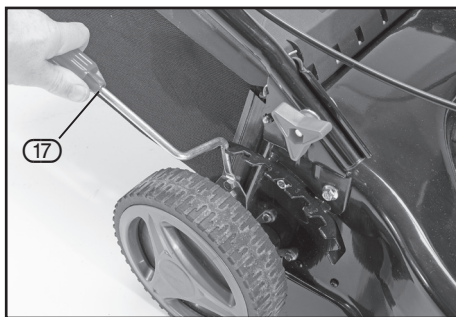

FIG. 12
8.7 SETTING THE CUTTING HEIGHT – FIG. 12